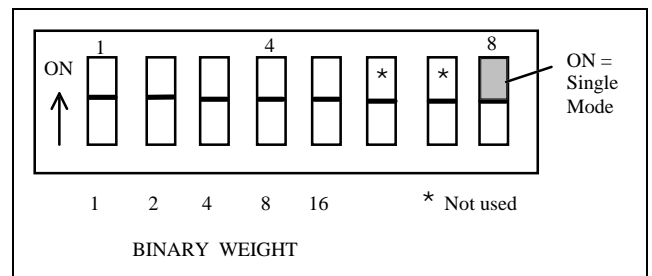

Figure 9 - SW4 DIP Switch Binary Weight Assignment
4. Locate SW4 on the left edge of the RIC board and set SW4 to the channel number under configuration (see Figure 9).